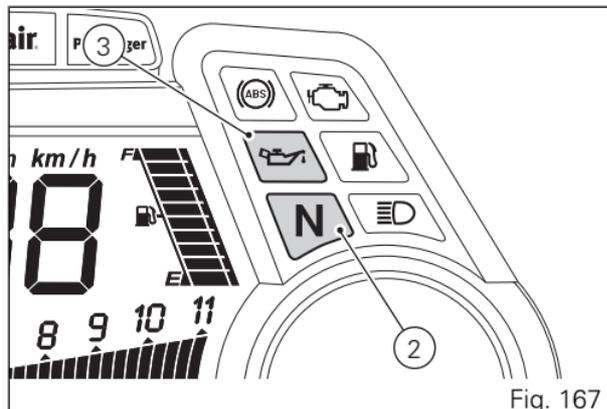
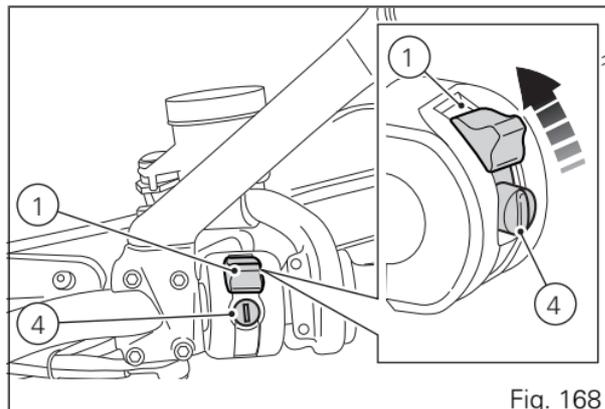

Fig. 167
Fig. 168
The red oil pressure warning light (3, Fig. 167) should go out a few seconds after the engine has started. The engine will shut off by turning the red key (1, Fig. 168) on the handlebar to RUN OFF. To turn on the “Hands free” system and all electronic onboard systems, refer to page 176 “Hands Free System”.